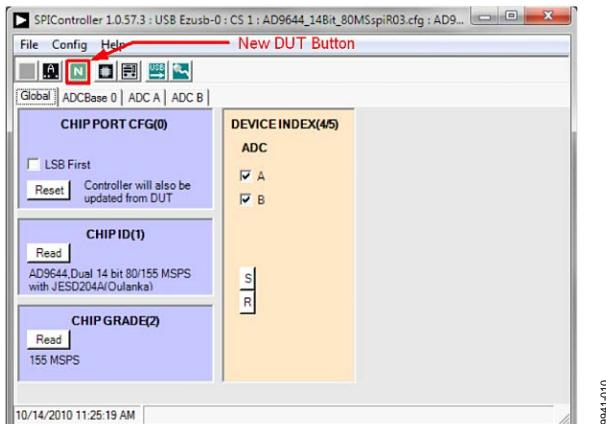

Figure 10. SPI Controller, New DUT Button
- Click the **New DUT** button in the **SPIController** window (see Figure 10).